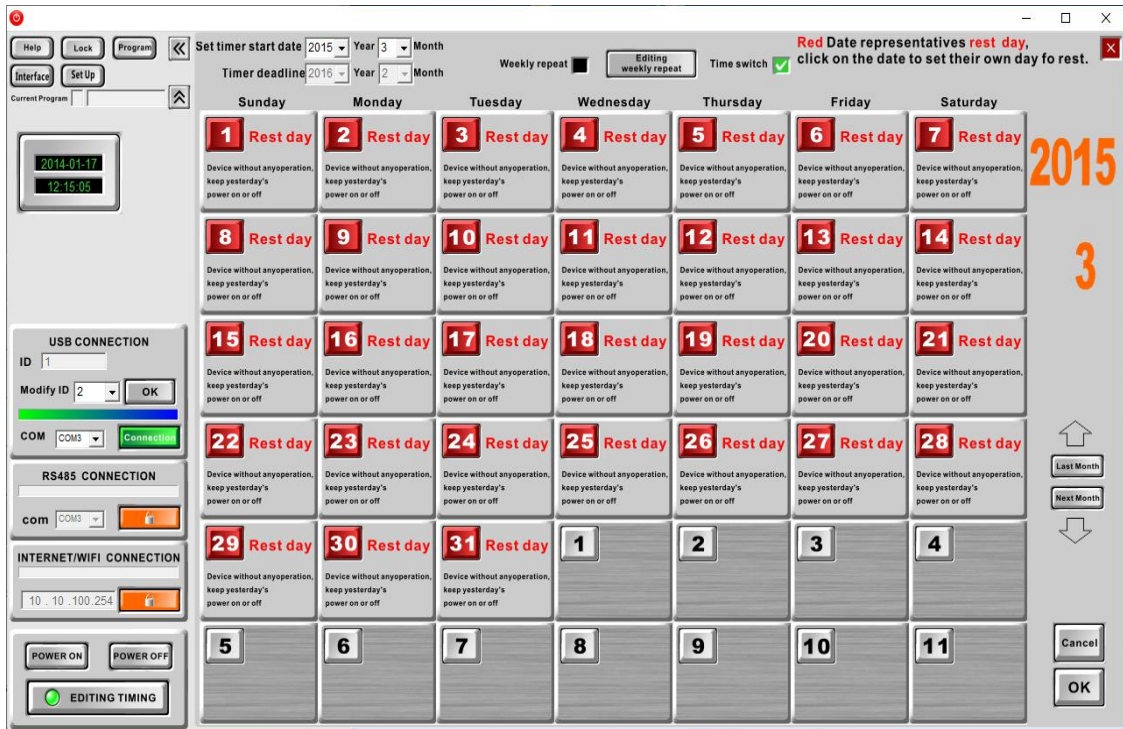

Figure 20
Step 4: Click OK to save the current configuration to the device (see Figure 20 below). After the above 4 steps, the sequencer will be automatically turned on at 8 AM, off at 12 AM, and on at 14 PM, and off at 22:00 on March 15, 2015.